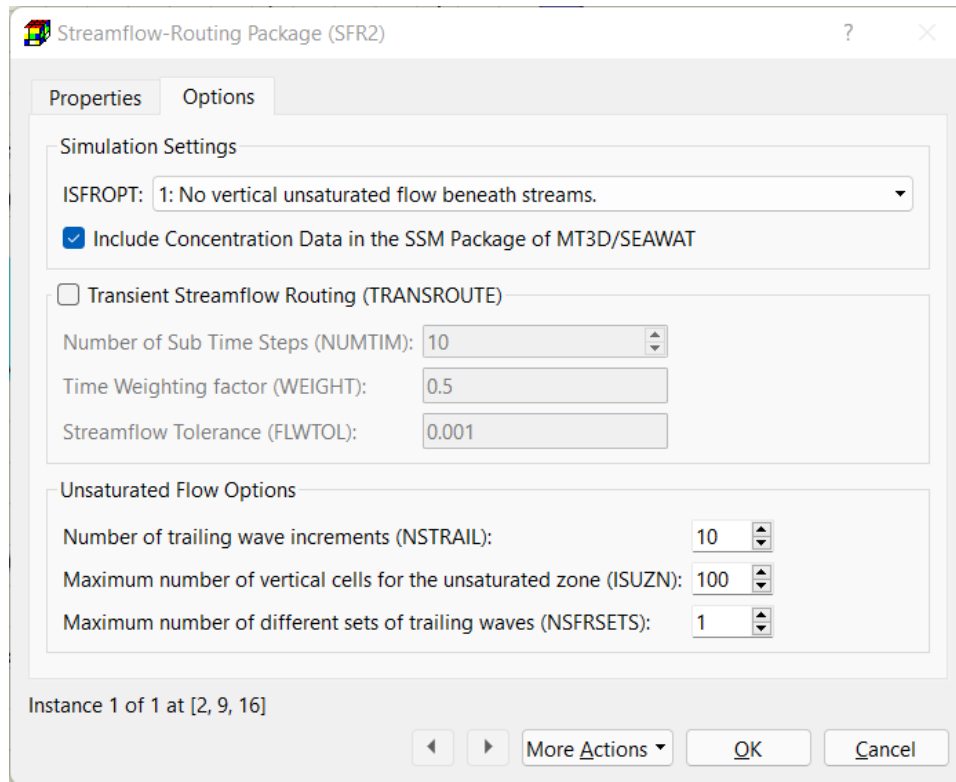

Figure 91. The Options tab of the Streamflow-Routing Package (SFR2) dialog box
1. **All input methods:** The data-entry dialog boxes of all input methods contain an Options tab (Figure 91) with the following common data.